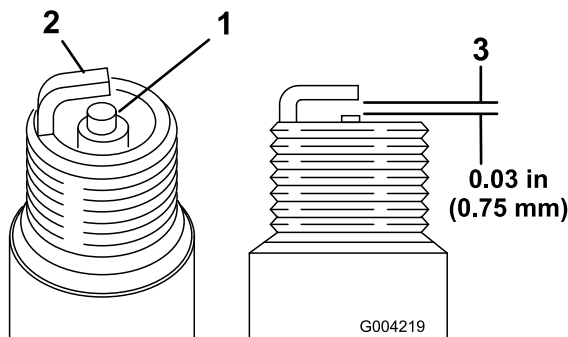

Figure 36
1. Look at the center of both spark plugs (Figure 36). If you see light brown or gray on the insulator, the engine is operating properly. A black coating on the insulator usually means the air cleaner is dirty.
2. Check the gap between the center and side electrodes (Figure 36).
3. Bend the side electrode (Figure 36) if the gap is not correct.